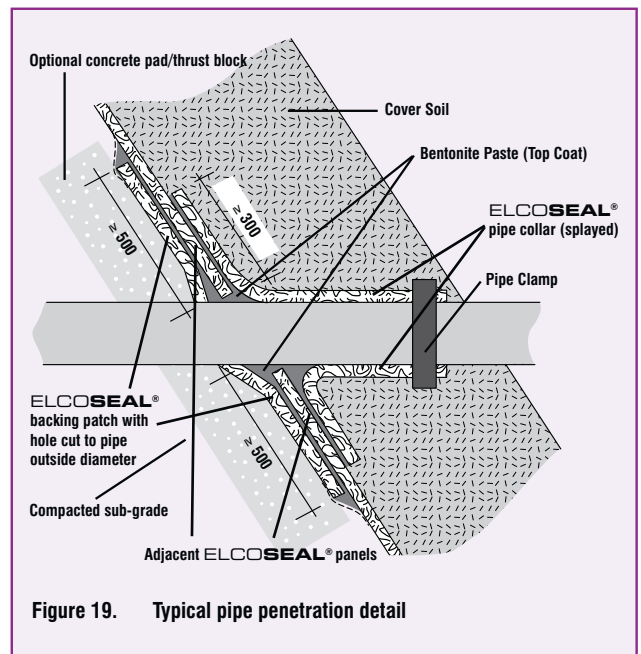

Figure 19. Typical pipe penetration detail
- Penetrations such as pipe ducts are typically carried out according to Figure 19.